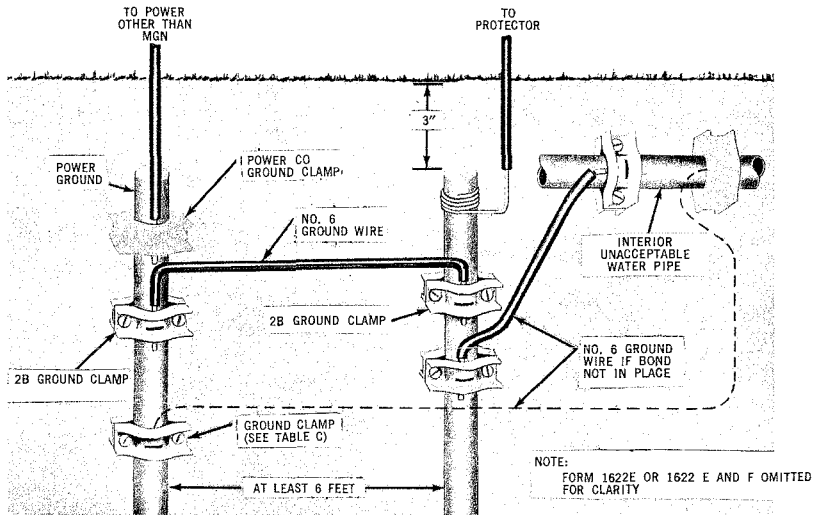

Fig. 30 – Power Other Than MGN Grounded to Grounded Rod Unacceptable Interior Water Pipe
- (a) If an acceptable public or private water system is available and the power service is grounded to a ground rod, connect the telephone protector to the metallic water system. In addition, a No. 6 station ground wire should be bonded to the interior metallic water pipe and the power ground rod. (Fig. 30)
- (e) At least 6 feet from power service, or lightning ground rod. (Fig. 30 and 31).